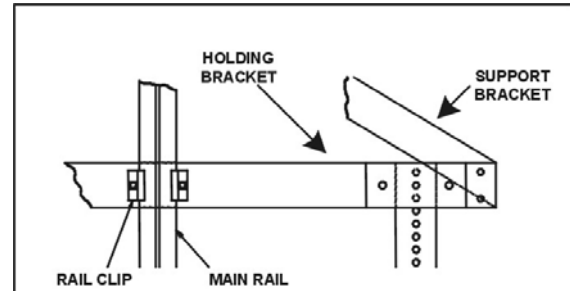

**Figure 1-23**
- Mount top tape support bracket on the main guide rail high enough so that the car, sitting on a compressed counterweight buffer, would not strike the bracket. (formula: CWT runby + CWT buffer stroke + ½ gravity stopping distance + 6"). [See Figure 1-23.]